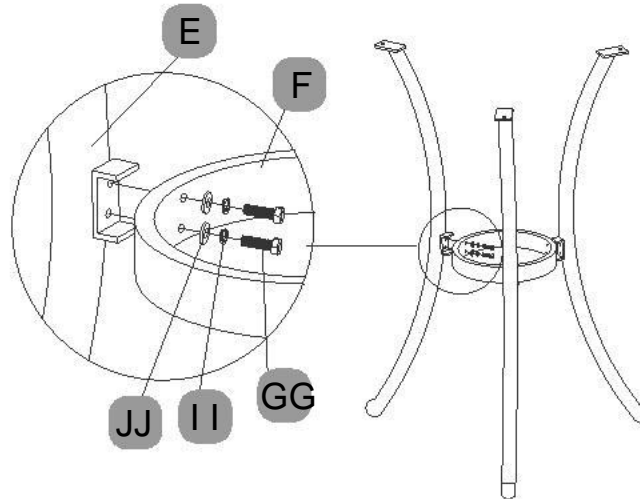

Fig. 3
Connect support frame (F) to legs (E) with flat washers (JJ), spring washers (II) and bolt (GG), as shown in Fig. 3. Do not tighten at this step.